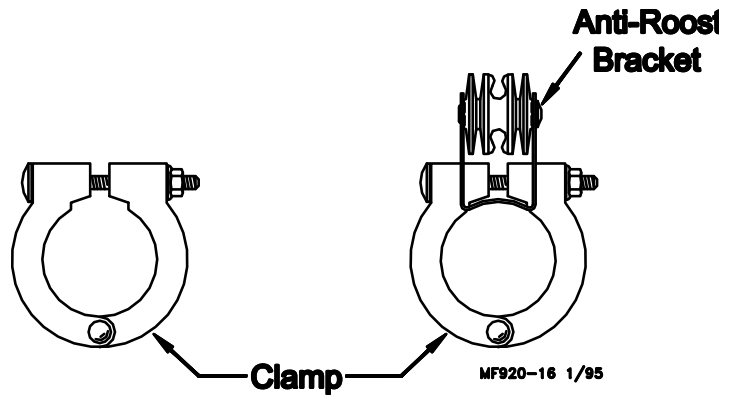

Figure 55. Tube Clamps
4. Place a Tube Clamp Assembly or Clamp/Anti-Roost Bracket at each joint. **Figure 55** shows the standard Clamp and Clamp/Anti-Roost Bracket.